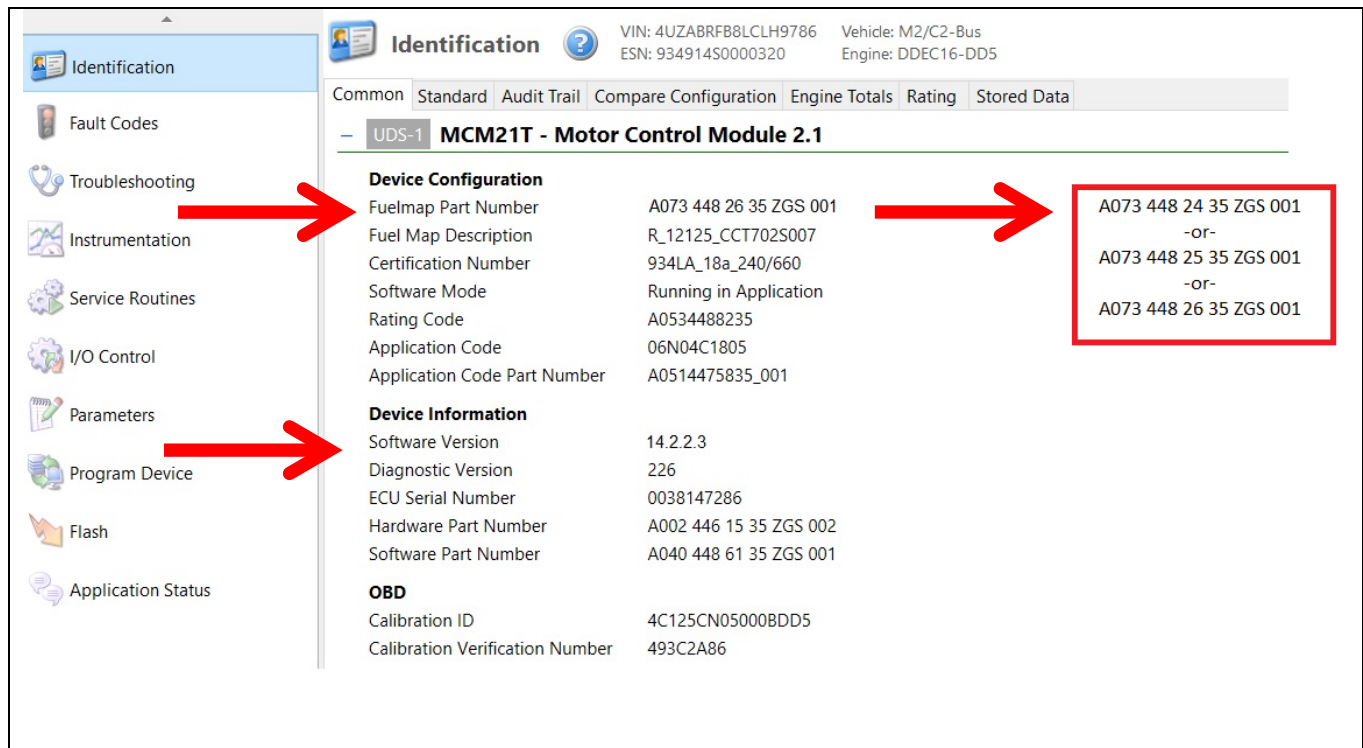

Fig. 3, DiagnosticLink® Identification Screen
4. On the Identification screen, check the current MCM software level. Listed below are the software levels and fuel map part numbers required. See Figure 3 for an example of the Identification screen.